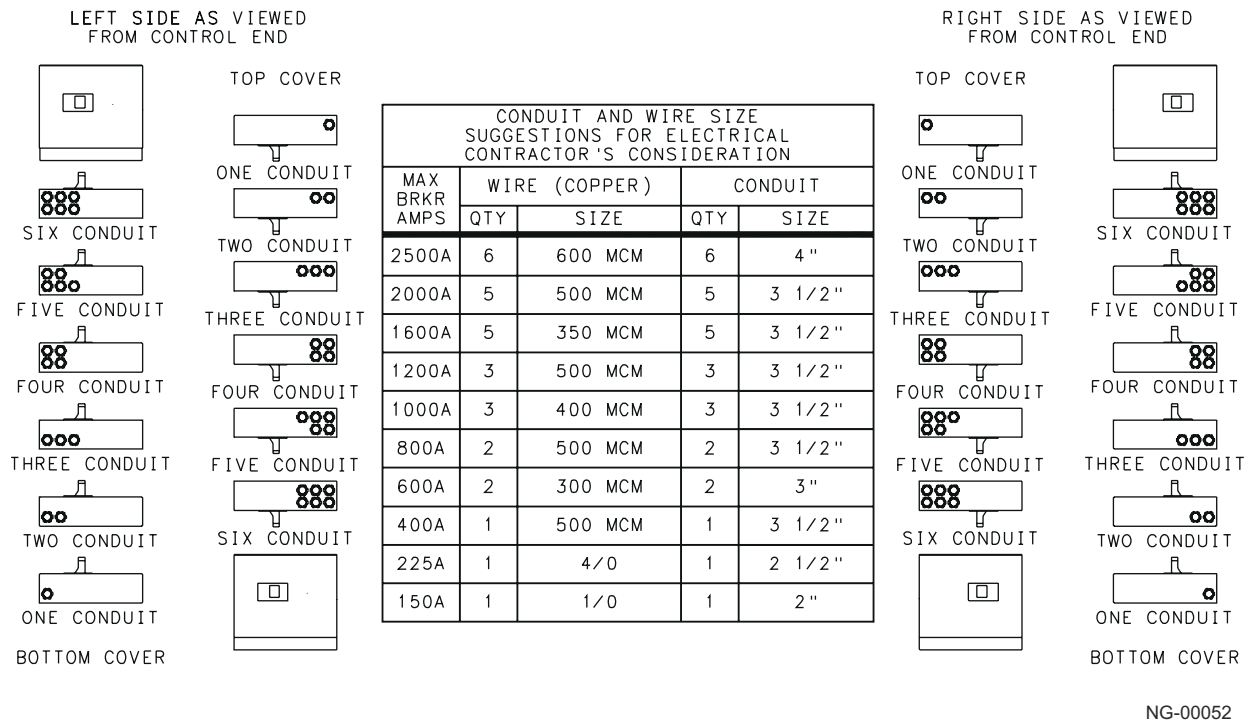

Figure 4-1
**Network Connections:** Refer to 900-0366 Power-Command Network Installation and Operation Manual for the type/gauge wire to use for these connections or refer to Figure 4-1.
Local regulations often require that wiring connections be made by a licensed electrician, and that the installation be inspected and approved before operation. All connections, wire sizes, materials used, etc. must conform to the requirements of electrical codes in effect at the installation site. Contractor guidelines for appropriate conduit and wire sizing for this generator set can be found by referring to Figure 4-1.